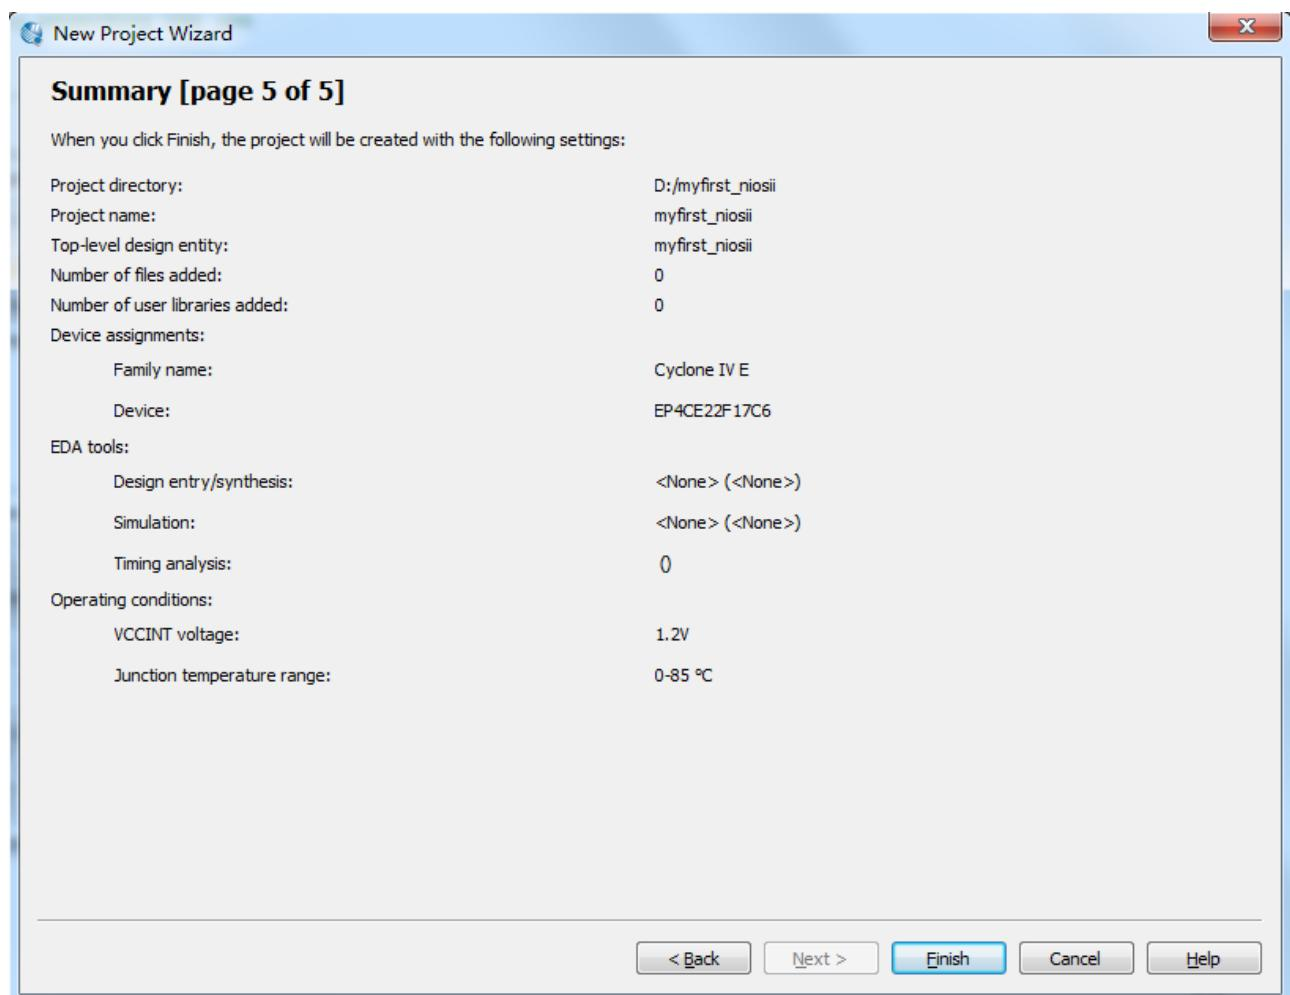
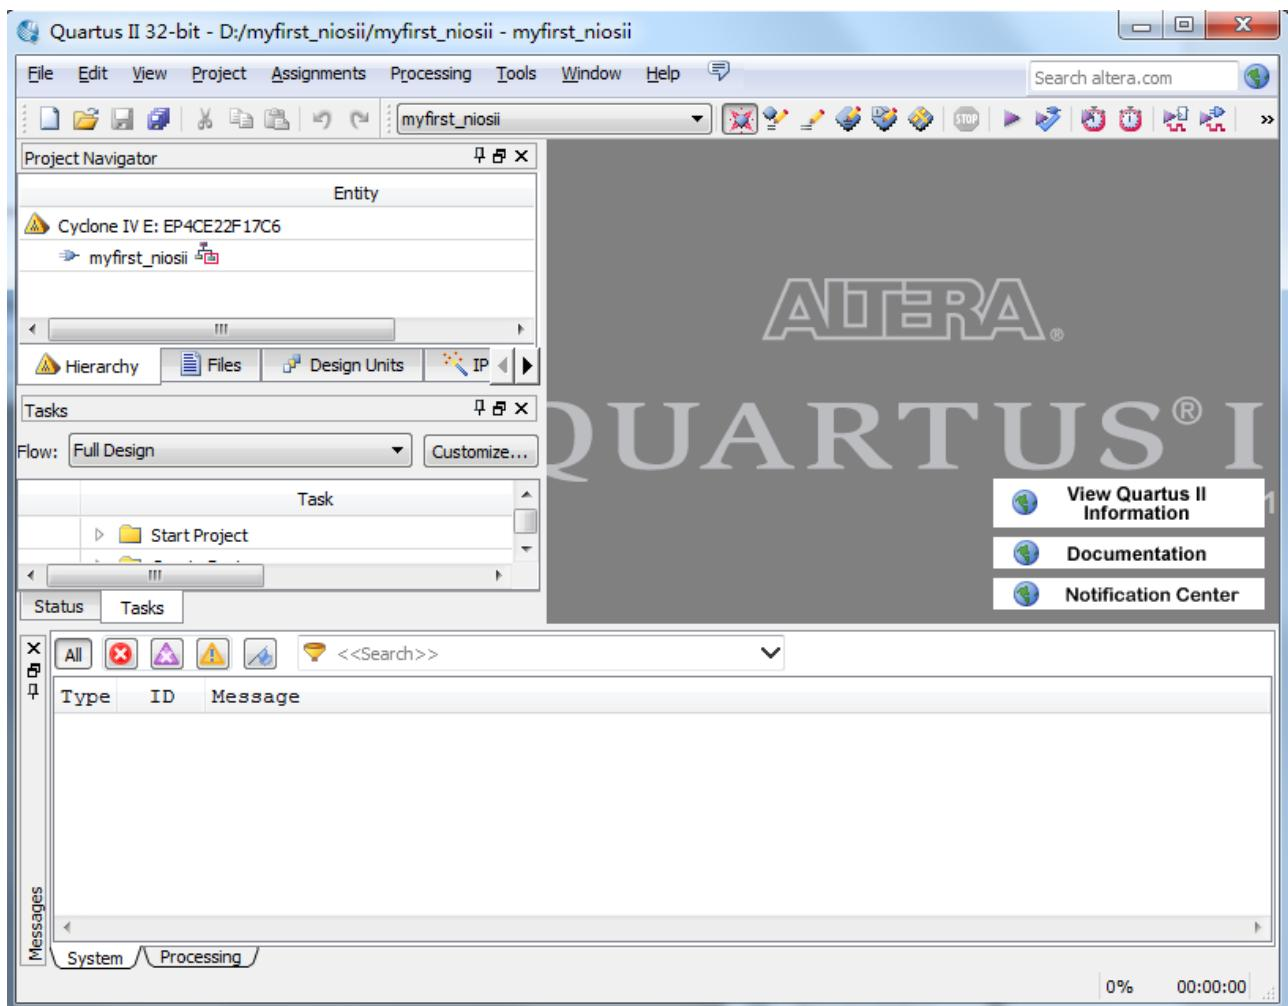

Figure 1-7 New Project Wizard: Summary [page 5 of 5]
Figure 1-8 A New Complete Project
4. Click Next and will see a window as shown in **Figure 1-7**. **Figure 1-7** is a summary about our new project. Click Finish to finish new project. **Figure 1-8** show a new complete project.